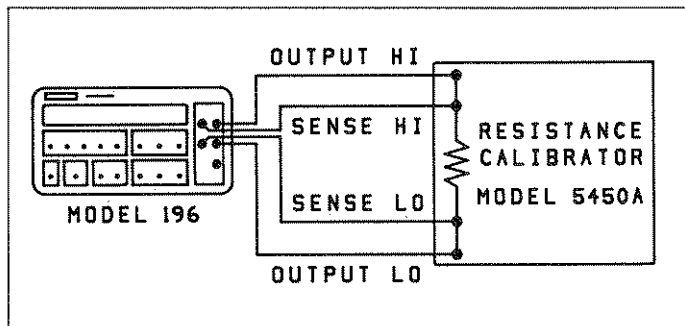

Figure 4-3. Connections for Ohms Verification (300Ω—30kΩ Range)
2. Using Kelvin test leads (such as the Keithley Model 1641) connect the resistance calibrator to the Model 196 as shown in Figure 4-3.
6. Utilizing Figures 4-3 and 4-4, check the 3kΩ through 300MΩ ranges by applying the respective resistance levels listed in Table 4-4. Verify that the readings are within the limits listed in the table.